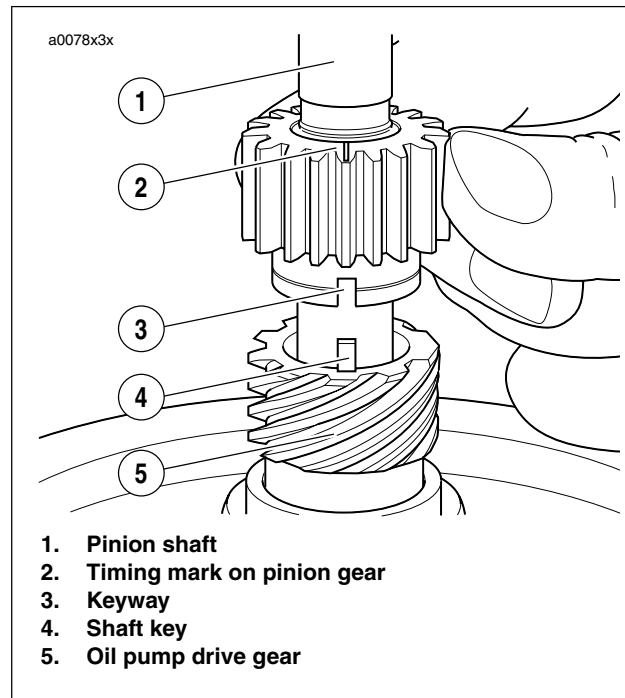

Figure 3-127. Aligning Pinion Gear
1. See Figure 3-127. Install oil pump drive gear and pinion gear on pinion shaft.